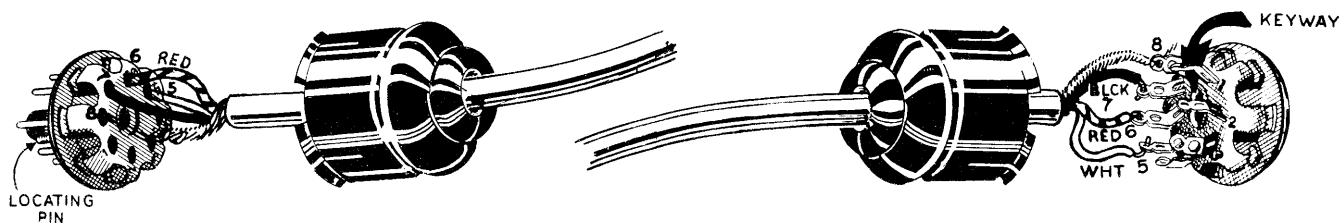

Figure 19
- ( ) Locate the length of 3 conductor shielded cable. Referring to Figure 19, strip the outer jacket for a distance of 1" from each end of the cable. Then unbraid and twist the shield into a pigtail. On one end, strip and tin each wire for a distance of 3/8". Slide an octal socket cap over this end and connect the white lead to pin 5, the red to pin 6, the black to pin 7, and the shield to pin 8 of a female octal socket. Now snap the cover into place. At the other end, strip and tin each lead for a distance of 1/2". Slide an octal plug cover over the cable. Connect the white lead to pin 5, the red to pin 6, and the black to pin 7 of a male octal plug. Using a short length of #20 bare wire, connect the shield to pin 8. Trim off any excess shield. Now snap the cover into place.